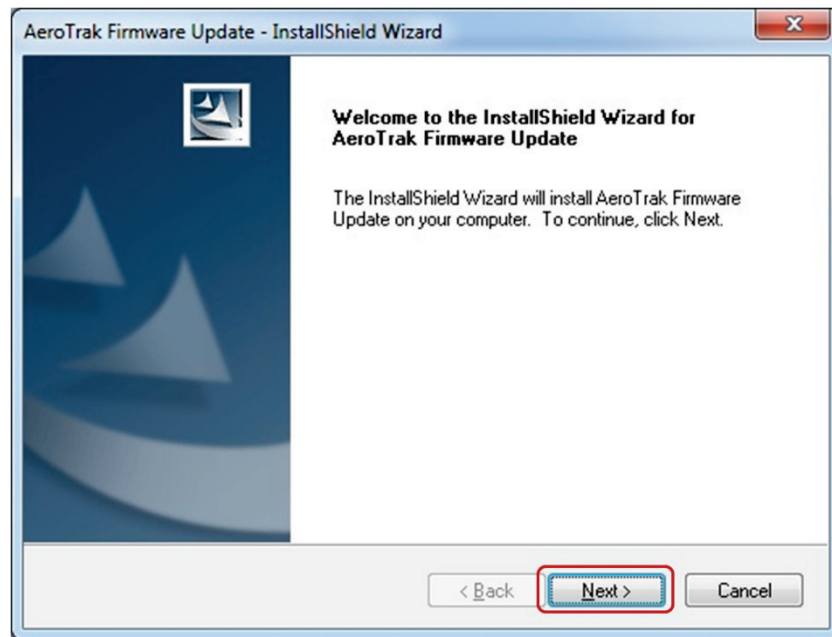

Figure 1
1. A Welcome Screen will be displayed (Figure 1).